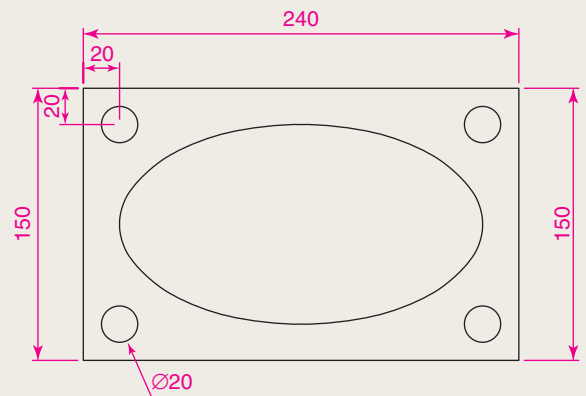

Fig. 3.48 Exercise 4
- With the **Line**, **Circle** and **Ellipse** tools construct Fig. 3.48.